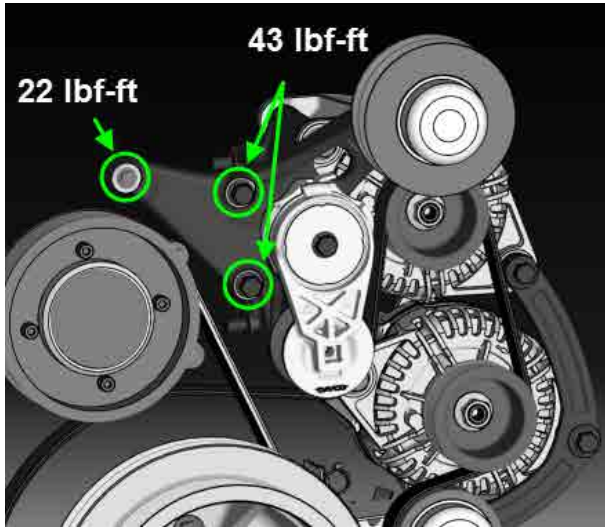

FIGURE 12
18. Reinstall the A/C compressor idler pulley bracket assembly (figure 12). Apply Loctite 243 on threads. Reinstall the A/C compressor belts.